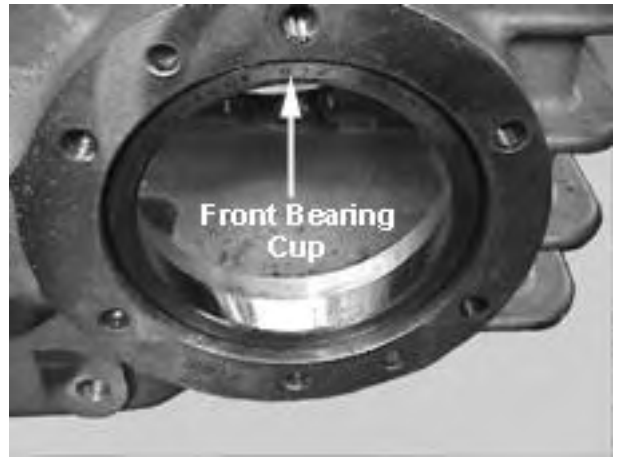

Fig. 62
18. Install the rear output, front bearing cup into the housing. See Fig. 62.